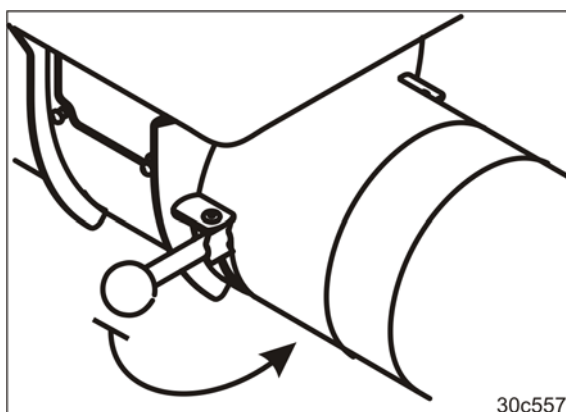

Fig. 266
3. Open both injector sluices (Fig. 266) and empty them (see section 5.7.2, Seite 87).
8. Close the injector sluice flap(s) (Fig. 266/1).